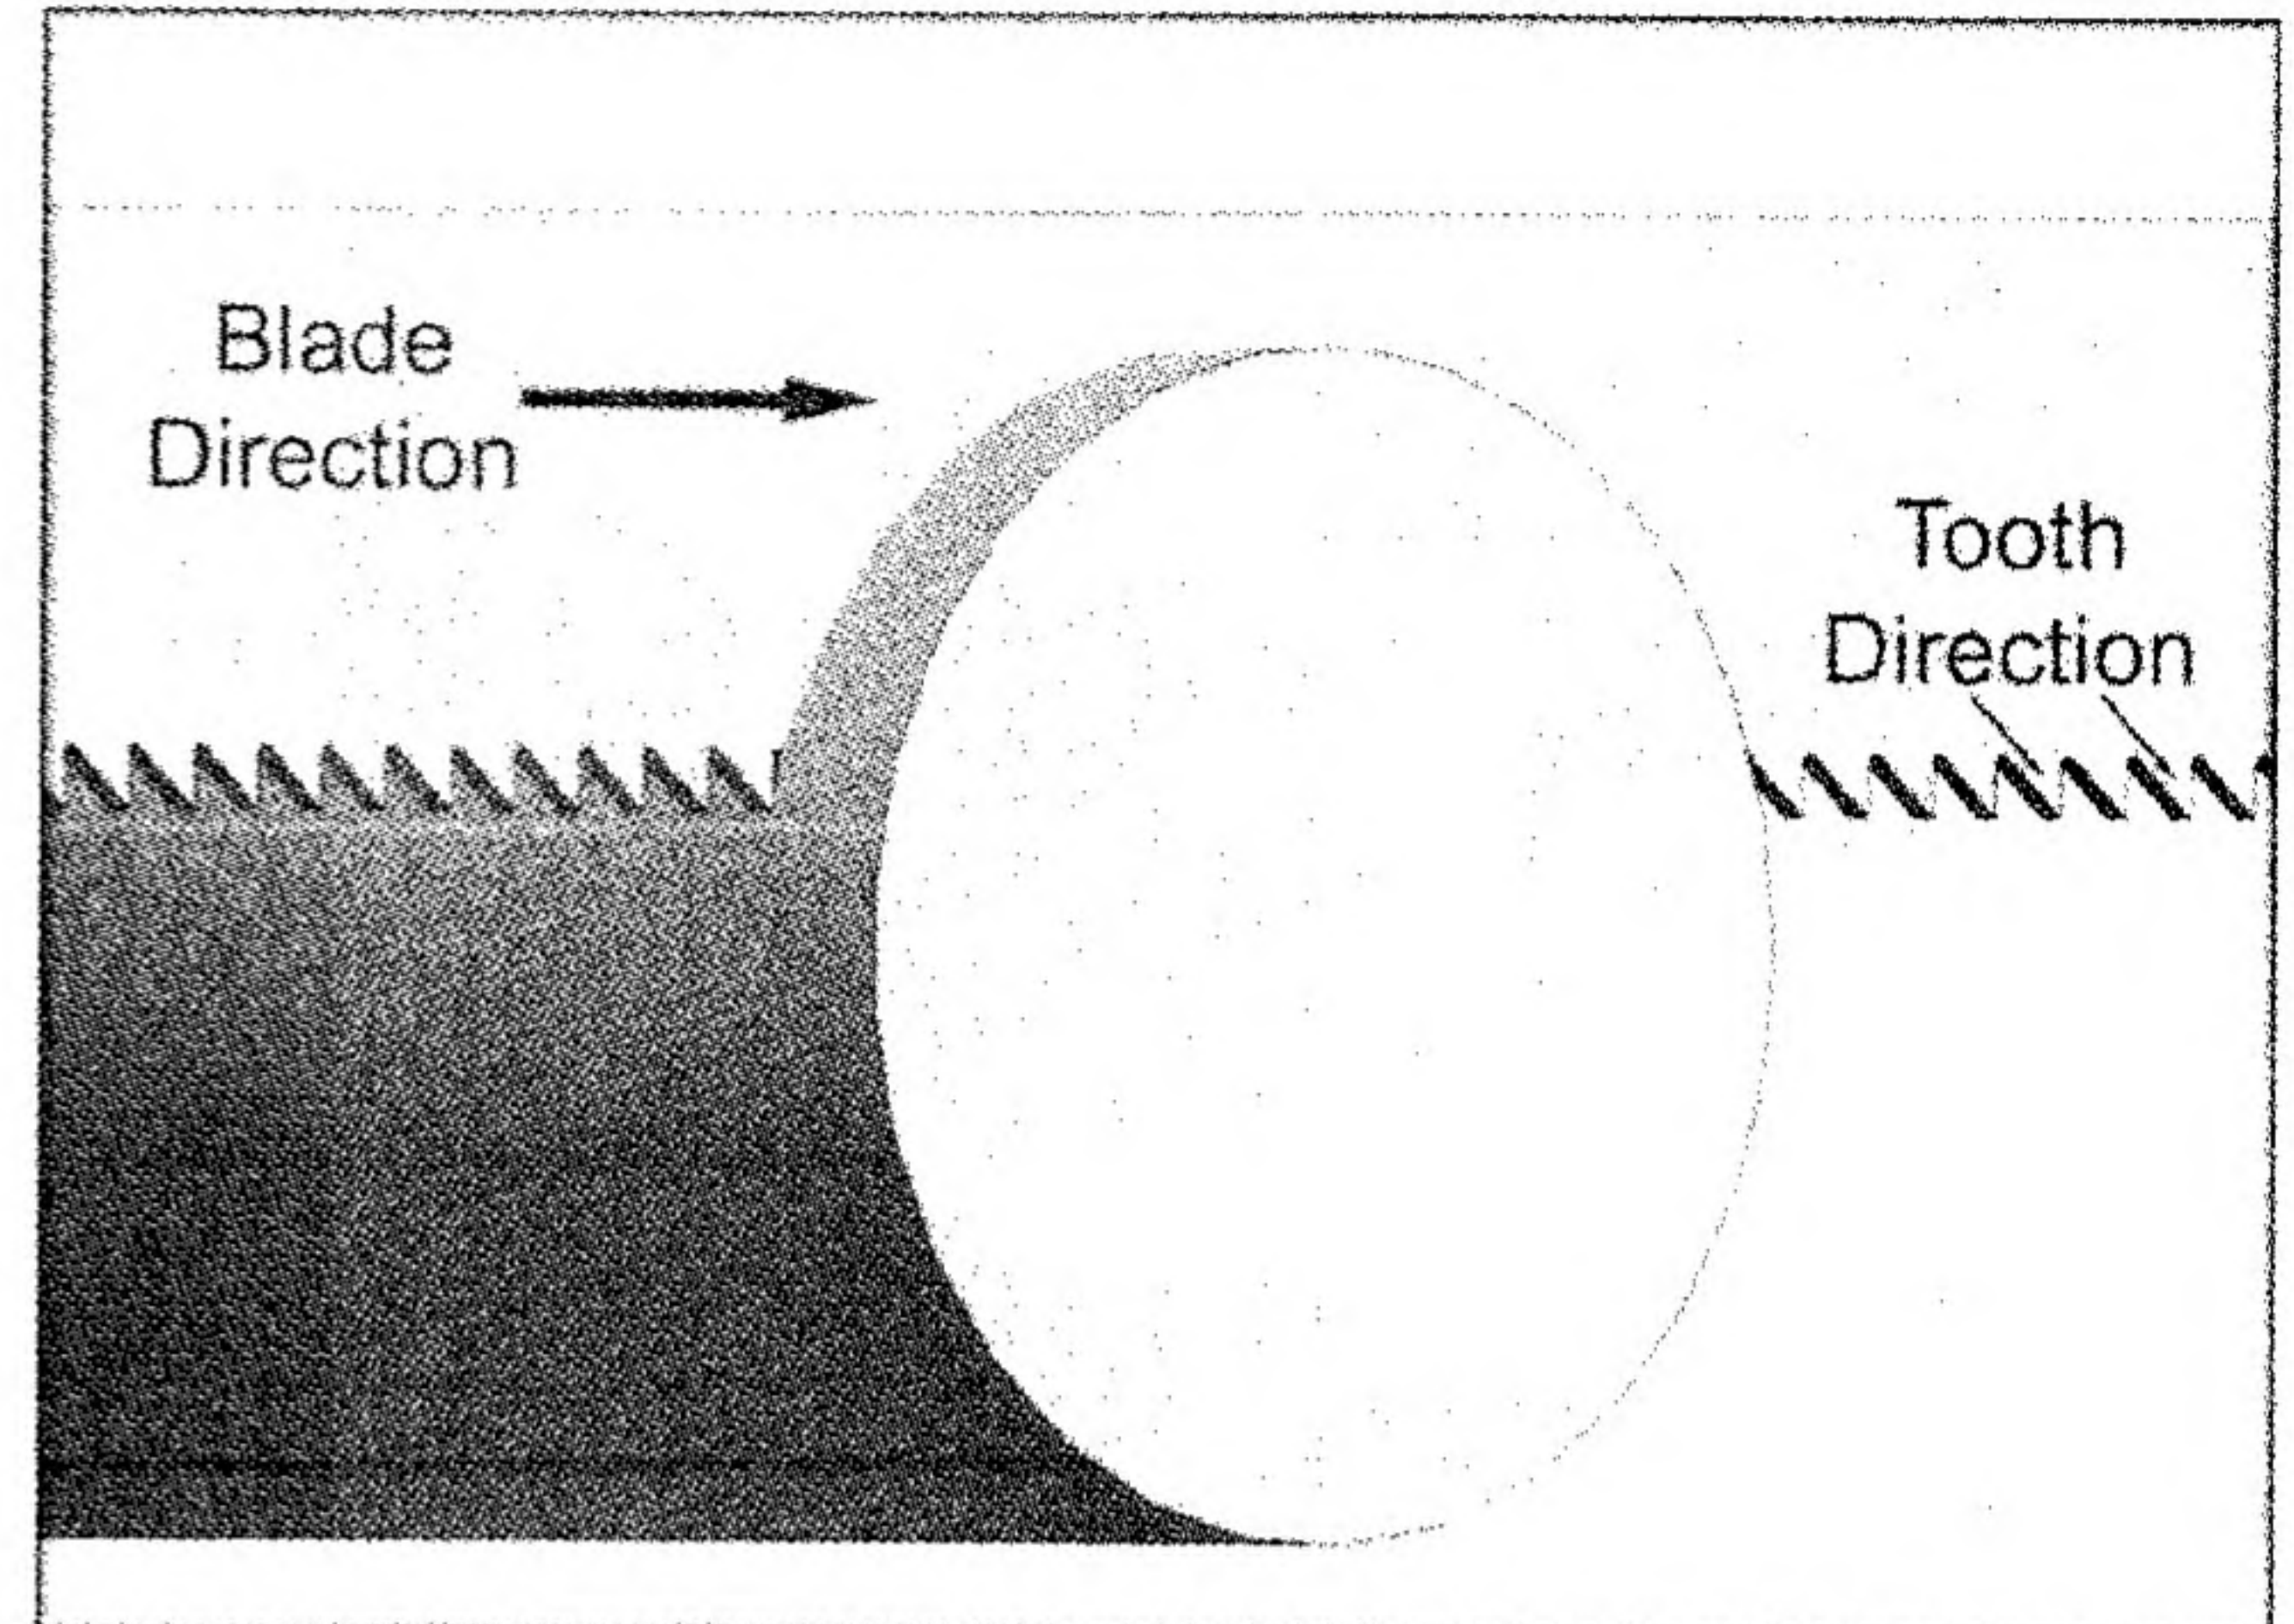

Fig. 13
6. Place new blade between the blade guide assemblies and around each wheel. Make sure blade teeth are pointing in the proper direction, Figure 13. Tension enough to hold in place.